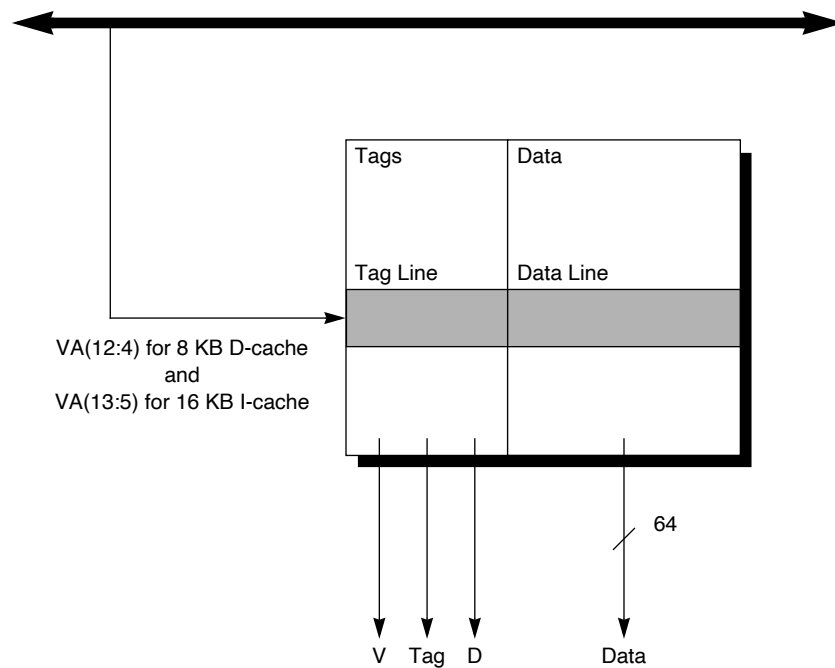

Figure 11-5 Cache Data and Tag Organization
Figure 11-5 shows the virtual address (VA) index into the caches. The number of virtual address bits used to index the instruction and data caches depends on the cache size.